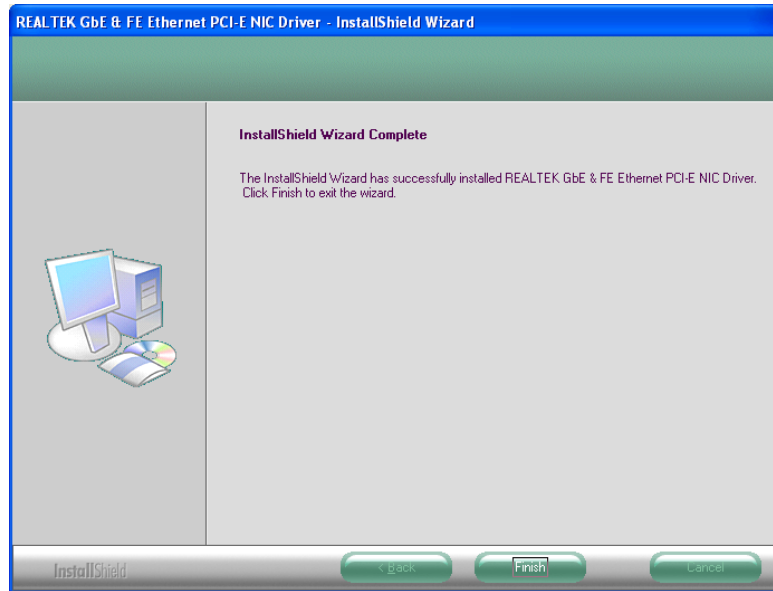

Figure 7-18: LAN Driver Installation Complete
Step 8: When the driver installation is complete, the screen in **Figure 7-18** appears.